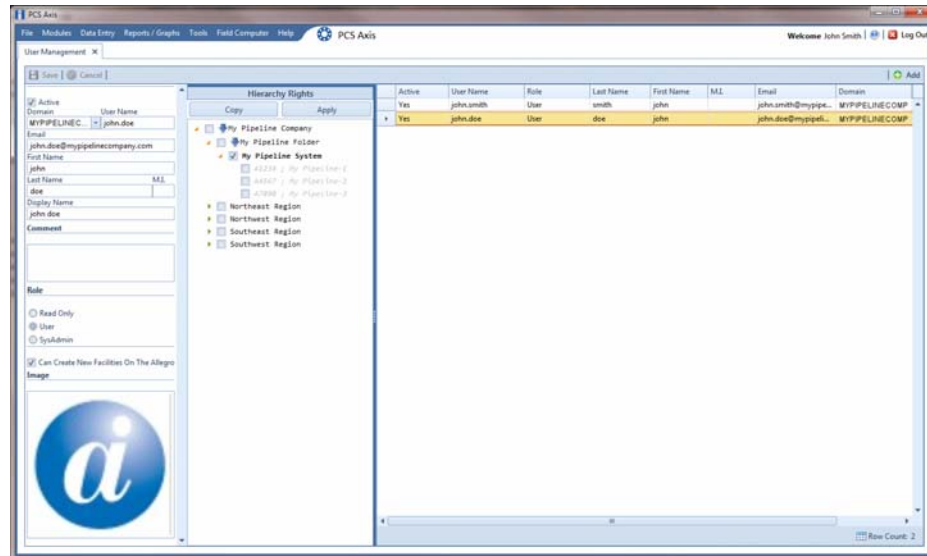

Figure 5-1. Adding a New User
- 1 Click **Tools > User Management > + Add** (Figure 5-1).
- 1 Click **Tools > User Management** (Figure 5-1, page 177).